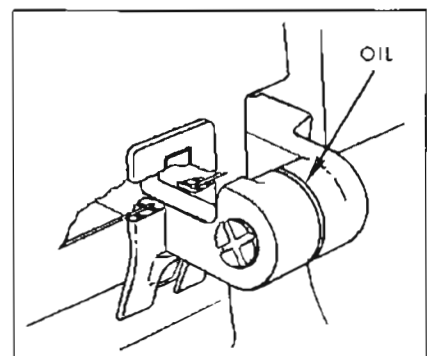

Figure 1-18—Tail Gate Hinge Lubrication
12. Tail Gate Hinges - Apply a sparing amount of dripless oil to frictional points of hinge. Work tail gate several times and remove excess lubricant. See Figure 1-18.